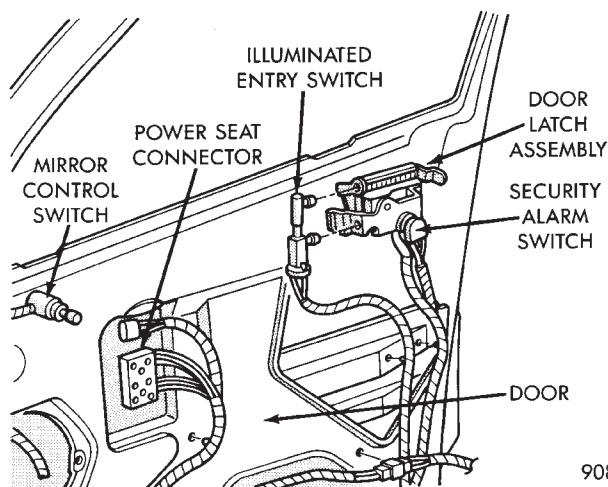

Fig. 6 Door Switch (Typical)
- (1) Remove door trim panel and water shield. Refer to Group 23, Body.
- (2) Remove illuminated entry switch wiring clip (Fig. 6).
- (3) Remove disarming switch from door handle.
- (4) For installation reverse above procedures.